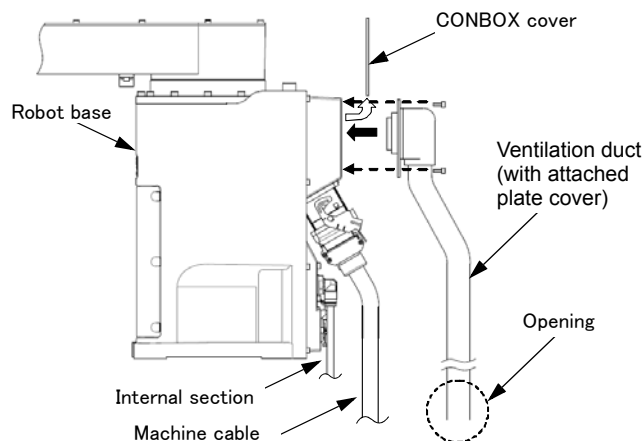

Fig.2-10 : Installation of Exhaust Duct
- 3) Remove the CONBOX cover on the robot arm rear and install the attached ventilation duct (refer to Fig. 2-10). As the Z axis moves up and down the volume of the bellows varies, and air is sucked in and released out of the robot's ventilation duct opening. Be sure to locate the ventilation duct's opening in a position that will not affect the robot's cleanliness.